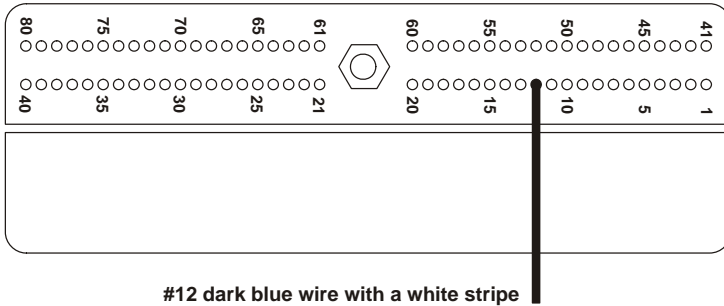

Figure 3.3
- Locate pin 12 on the wiring connector. It should have a blue wire with a white stripe (Figure 3.3).